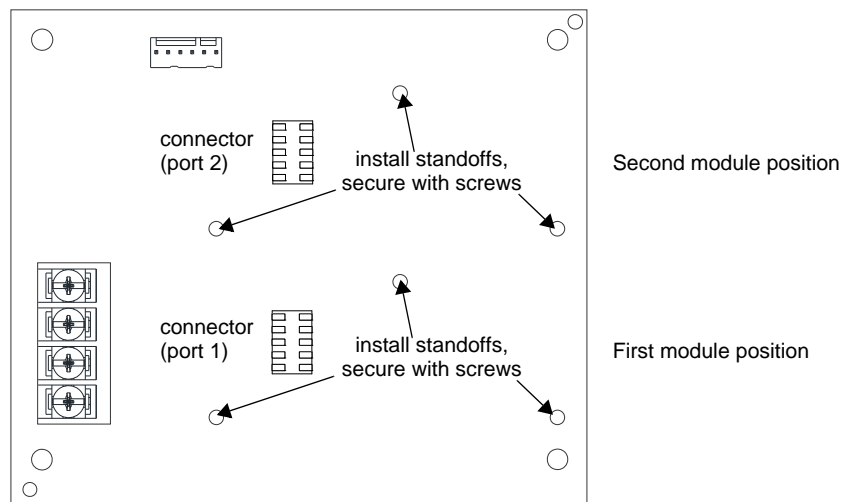
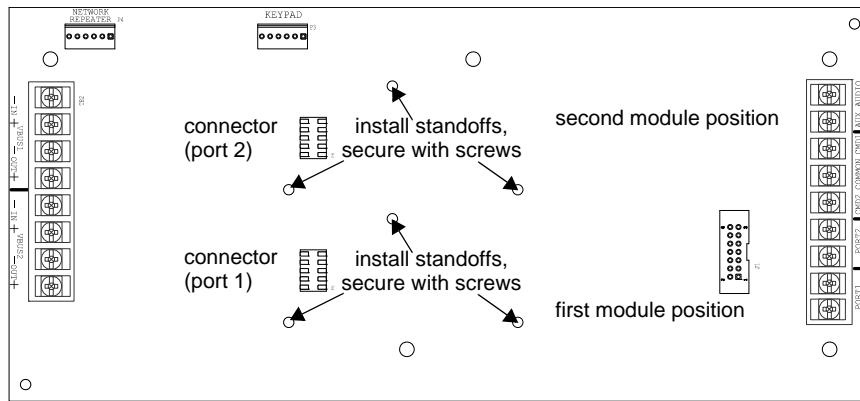

Figure 3 SK-NIC Installation
Figure 4 ECS-NVCM Installation
3. Install three standoffs from the hardware kit into the holes shown in Figure 3 and Figure 4 below.
Figure 4 illustrates mounting locations on the ECS-NVCM.